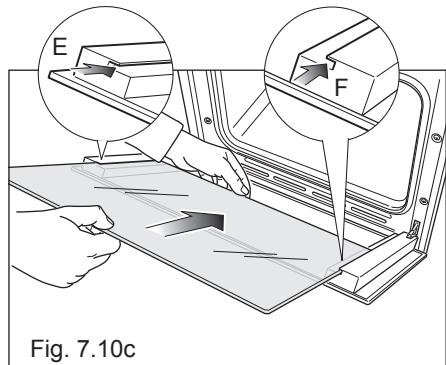

Fig. 7.10c
- Insert the inner pane in the left "E" and right "F" side guides (fig. 7.10c) and gently let it slide up to the retainers "H" (fig. 7.10d).